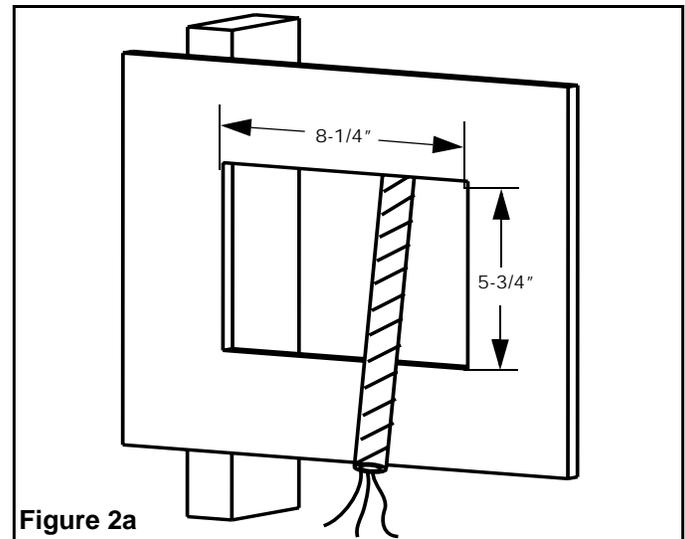

Figure 2a
#### “U” Bracket Installation in the wall (Figures 2a, b, c)
1. Cut a rectangular opening (8-1/4 inch by 5-3/4 inch) next to the ceiling joist. The opening must have the short side along the joist. Use the "U" bracket to mark the dimensions on the ceiling (Figures 2a, b, c).